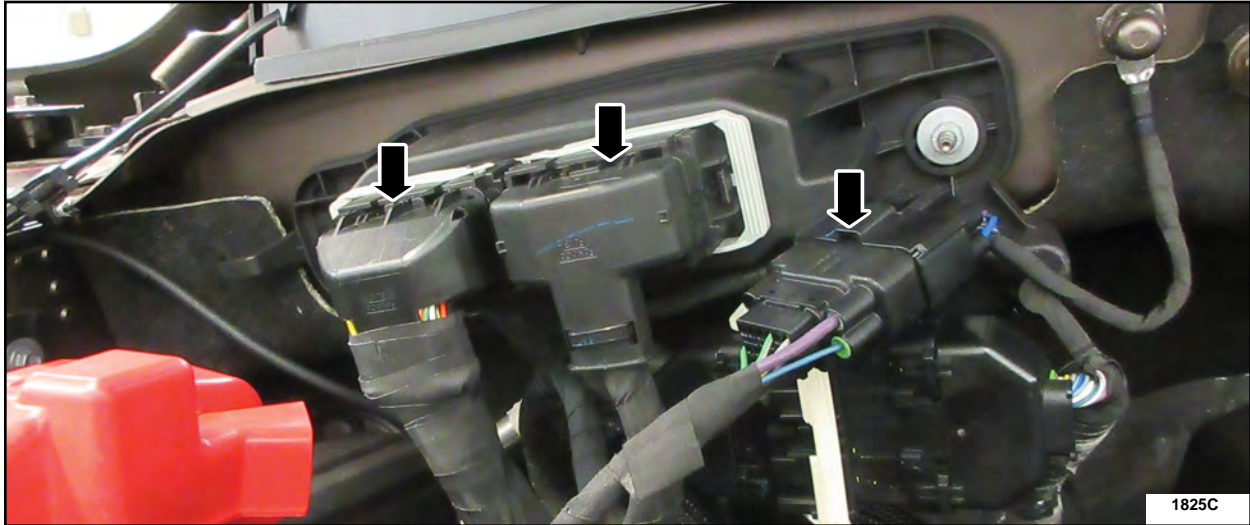

FIGURE 45
87. Install the PCM connectors and electrical connector. See Figure 45.